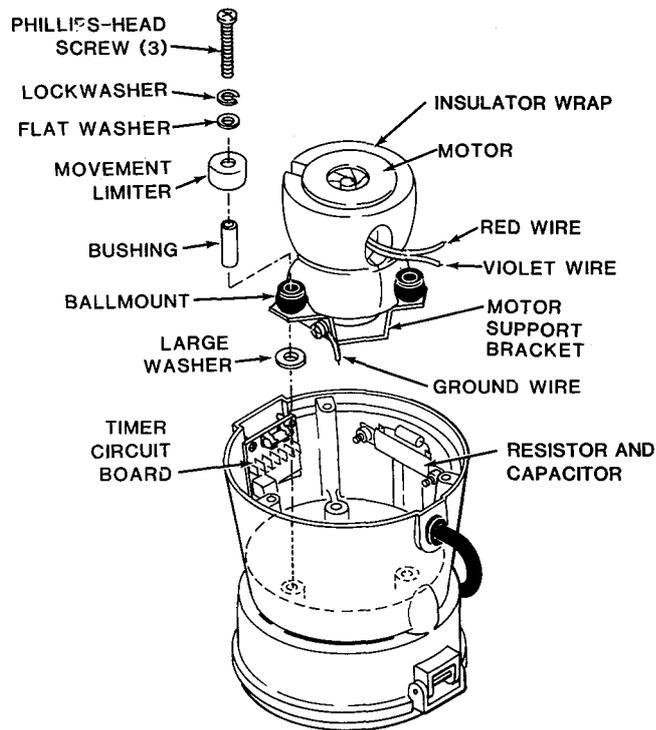

Figure 5-4. Motor Ballmount Attaching Hardware
- h. Refer to Figure 5-4, and loosen three Phillips-head screws that attach motor and support bracket to housing.